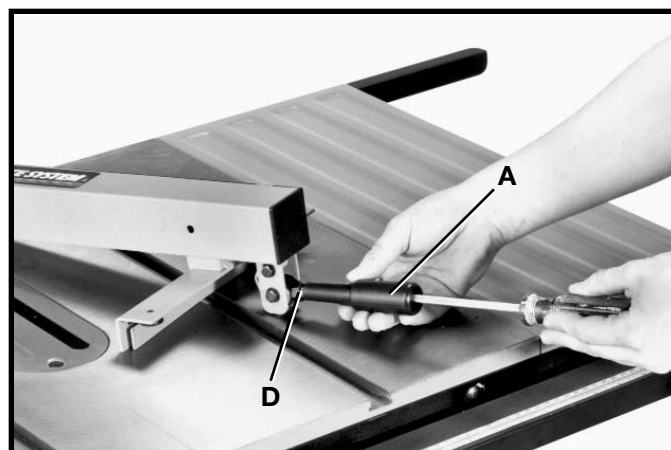

Fig. 21
2. Insert flat head screwdriver into rip fence handle (A) Fig. 21 and tighten screw (not shown).
Tighten hex nut (D) Fig. 21 against fence body.